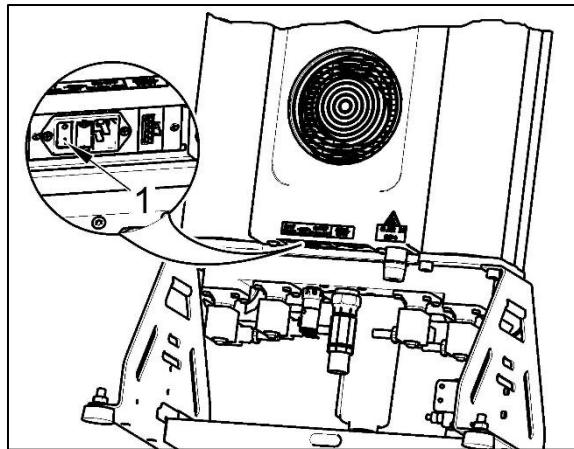

Fig. 11: Switching on the dryer
- Turn on the dryer by turning the power switch (1) to the "I" position (Fig. 11).
- To shut-down the dryer for service or any other reason, turn the power switch (1) to the "0" position (Fig. 11) and **pull the mains plug from the socket**. This disconnects the dryer from the mains.